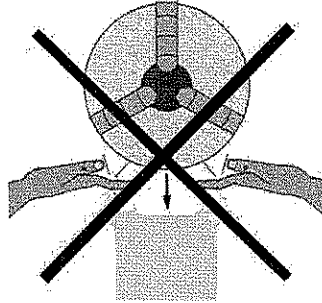
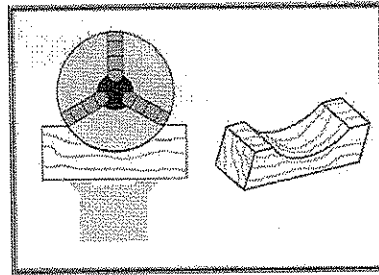

Fig. 29
Fig. 30
7.11.4. When demounting the spindle chuck, be careful NOT to catch the chuck with hands as shown in Fig. 29. Instead, a wooden cradle should be put on the rail as a support in order to avoid hurting your hands (see Fig.30).